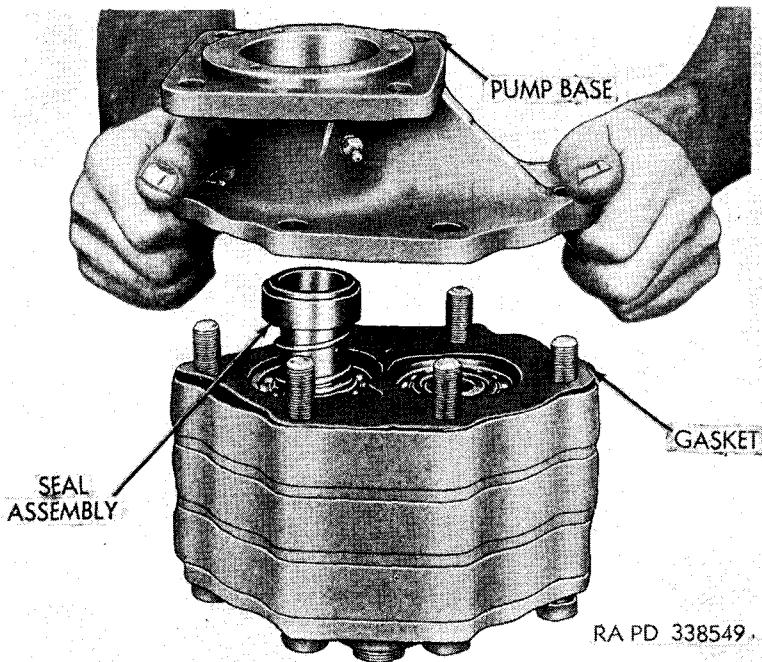

Figure 72. Installing rotary seal assembly and pump base.
j. **INSTALL ROTARY SEAL ASSEMBLY.** Place seal spring over end of drive gear shaft, steel washer over spring, and seal with bushing over washer and spring (fig. 72). Place cup grease on face of seal and seal seat in pump base.